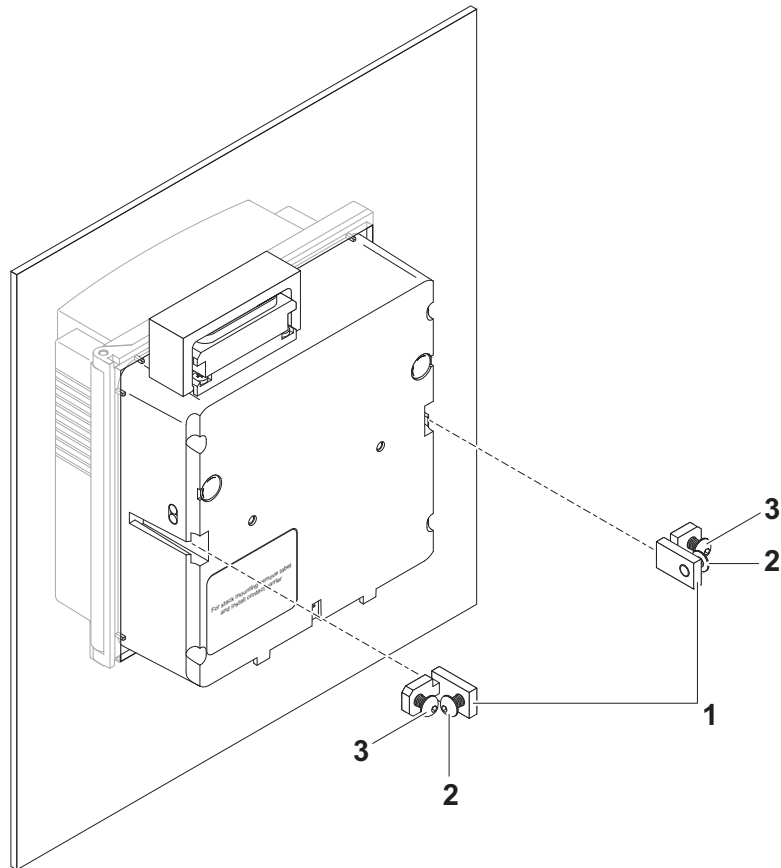

Fig. 3-20 Mounting DIQ/S 182 Universal Transmitter in switch panel
3	Slightly unscrew the screws (pos. 2 and 3) of the two angle brackets (pos. 1 in Fig. 3-20), but do not remove them.
4	Push in the two angle brackets - as shown in Fig. 3-20 - into the lateral guides of the Universal Transmitter up to the stop.